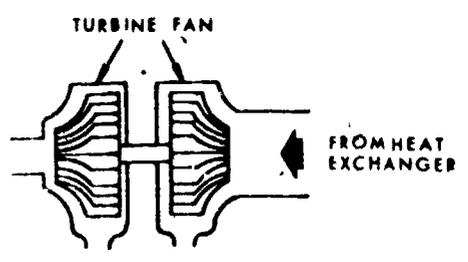

Figure 11.
We have stated that the turbine and fan are connected by a common shaft. This is shown in the illustration in Figure 11. As the turbine turns, it also turns the fan. One purpose of the fan assembly is to pull ram air across the heat exchanger. Ram air comes in through the ram air inlet, item 6, and is exhausted overboard through the ram air outlet, item 7.